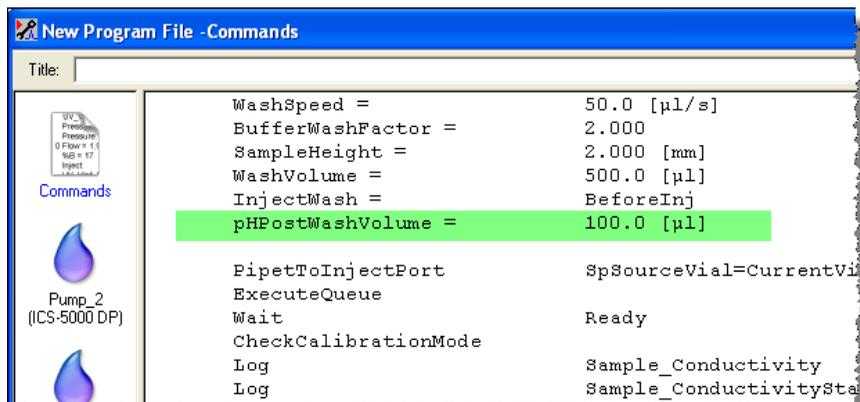

Figure 23. Chromeleon 6.8 Program: pHPostWashVolume Parameter Added to the Program
2. In the **Commands** dialog box, under **Sampler**, select **pHPostWashVolume** or **pHPreWashVolume**, enter a volume, and click **OK**. The new parameter is added to the program (see Figure 23).